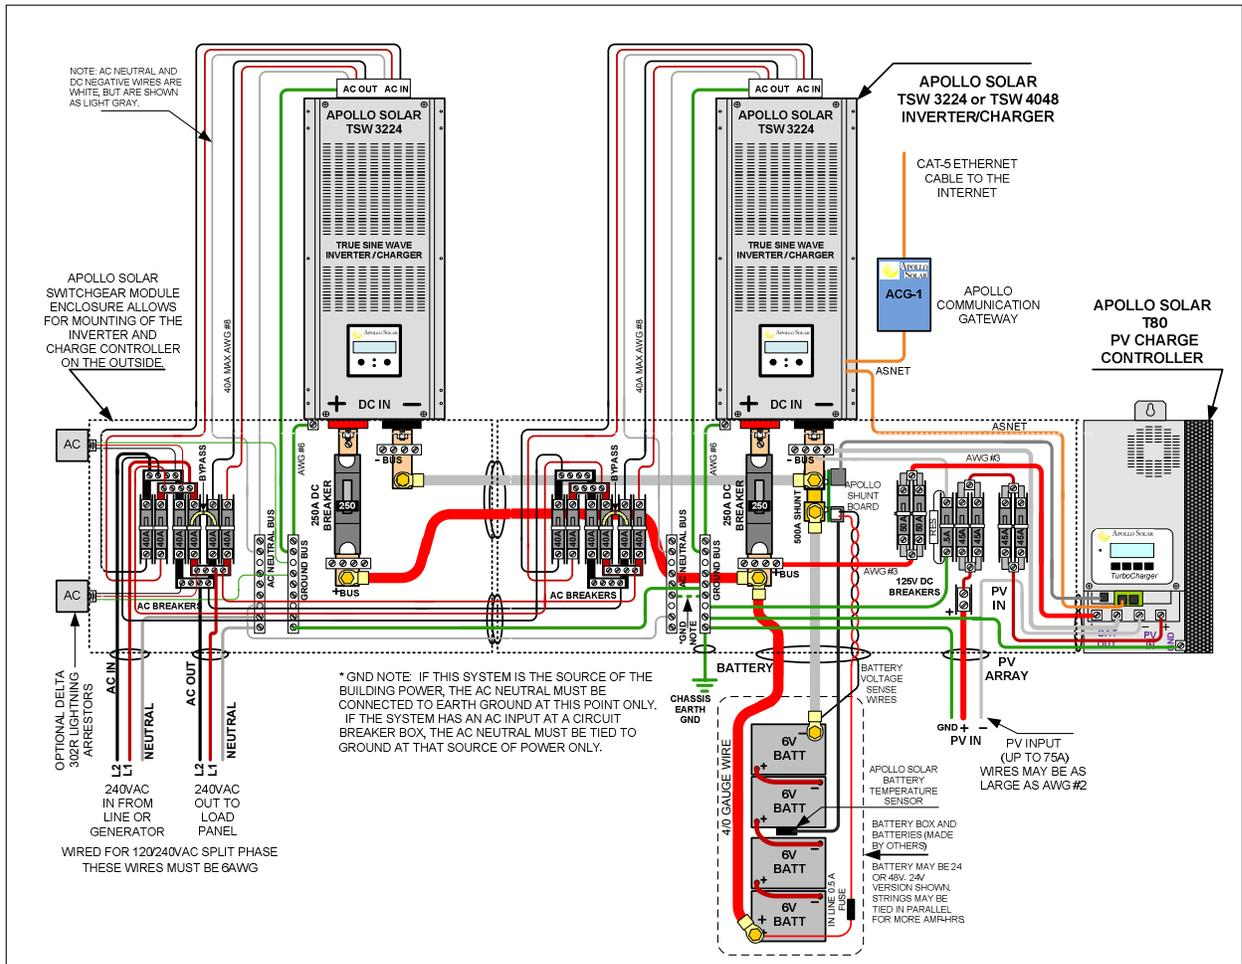

Figure 4.3: A pair of TSW Inverters in complete system with Charge Controller from Photovoltaic input.
Refer to Table 4.1 for proper AC input and output wiring gauge. Connect the wires from the AC terminal block (refer to Figure 4.3) to the AC circuit breakers. Please observe the proper torque rating on the terminal block. To avoid confusion (and to conform to code), use white for neutral (N), and black and red for line (L1, L2) connections. Connect Green wires from the ground (GND) terminals to the earth ground bus bar.